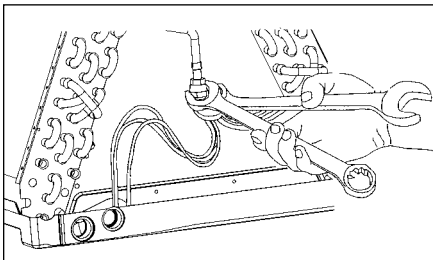

Figure 3. Wrenches on Distributor Body and Assembly Nut
2. Loosen the orifice/distributor body halves by applying two wrenches and squeezing them together, as shown in Figure 3, to turn the assembly nut counter-clockwise.